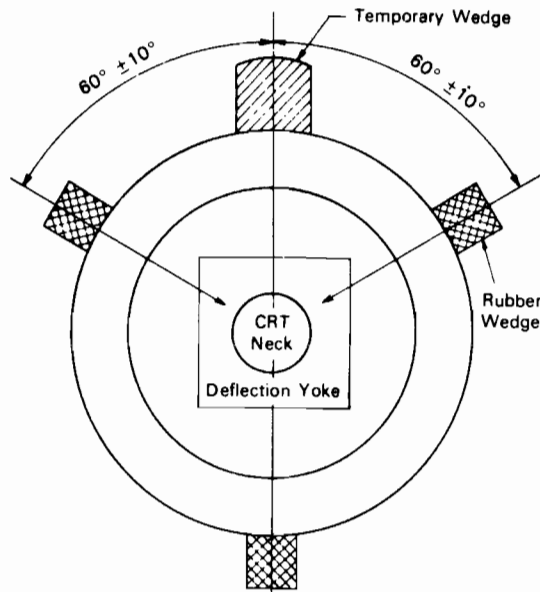

FIGURE 9
4. Insert three rubber wedges to the position as shown in Fig. 9 to obtain the best circumference convergence.
- 4) The angle of each rubber wedges are shown in Fig. 9.